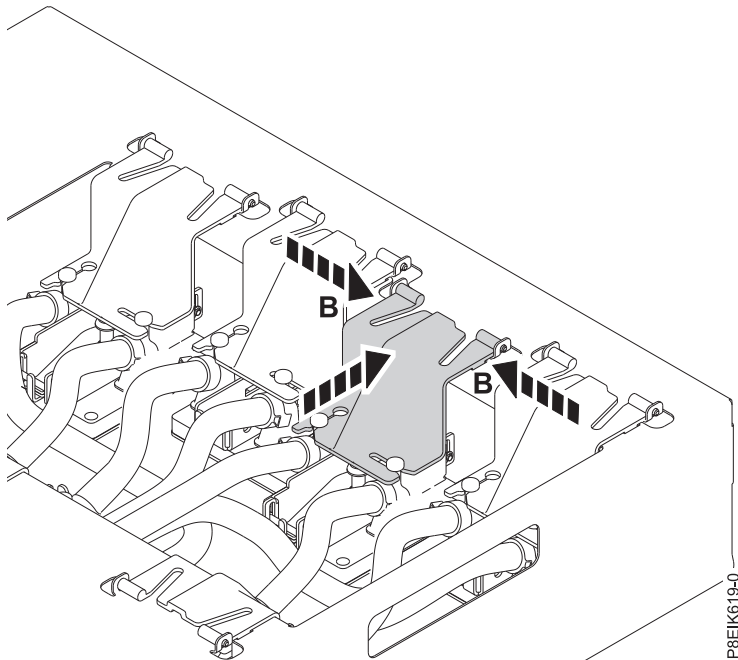

Figure 31. Replacing the holder back onto the carrier
- d. Pinch the holder at the sides **(B)** as shown in Figure 31 on page 24 and replace it onto the carrier.